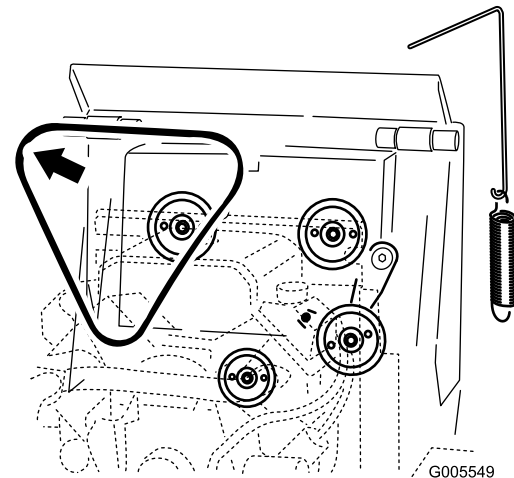

Figure 49
5. Remove the belt from the three pulleys (Figure 49).